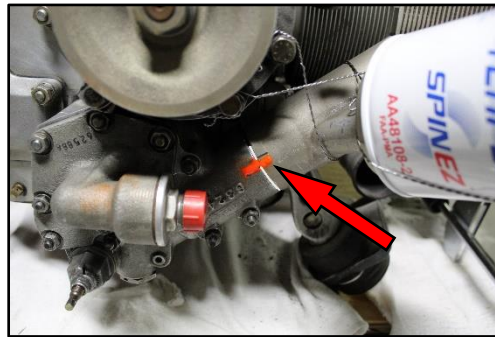

Figure 14
16. Apply Tamper Seal across the joint of the sleeve and oil pump housing as shown in Figure 14.